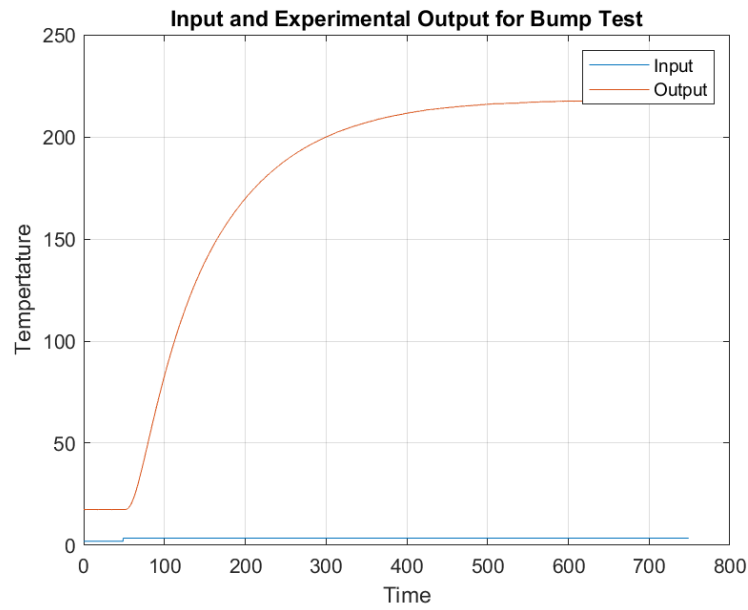

Figure 2: Input and Experimental Output for Bump Test
- Measured Process Variable (PV) : Current Temperature Value of the Environment
- Set Point (SP) : Desired Temperature
- Controller Output (CO) : Command Voltage
- Manipulated Variable (PV) : State of Heater
- Disturbances (D) : Airflow of Fan
3. *Figure 2*